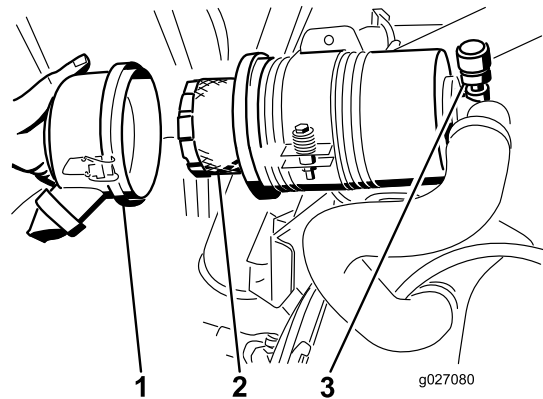

Figure 50
5. Remove and replace the filter (Figure 50).